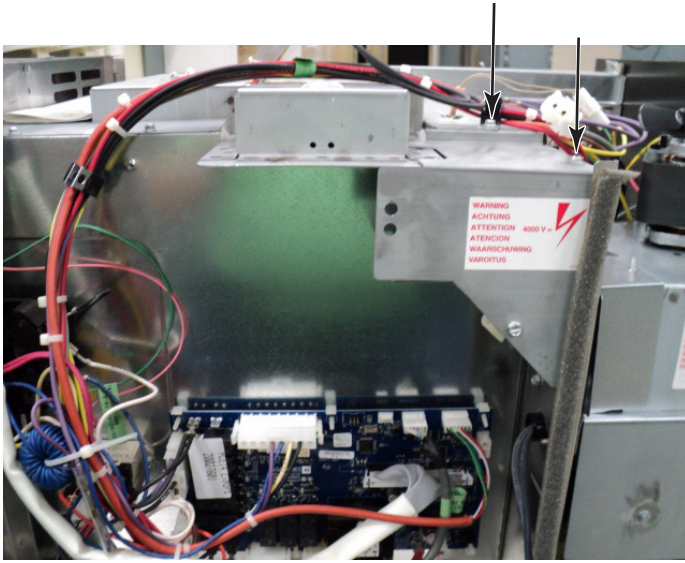

Figure 7
7. Remove two hex head screws holding inlet air duct and remove air duct (Figure 7).